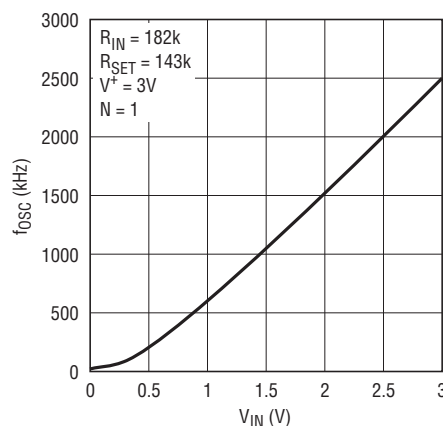

Figure 11. Output Frequency vs Input Voltage
Equation (2) yields  $R_{IN}/R_{SET} = 1.273$  and Equation (3) yields  $R_{SET} = 142.8k$ .  $R_{IN} = 1.273R_{SET} = 181.8k$ . For standard resistor values, use  $R_{SET} = 143k$  (1%) and  $R_{IN} = 182k$  (1%). Figure 11 shows the measured  $f_{OSC}$  vs  $V_{IN}$ . For  $V_{IN}$  higher than 1.5V, the VCO is quite linear; nonlinearities occur when  $V_{IN}$  becomes smaller than 1V, although the VCO remains monotonic.